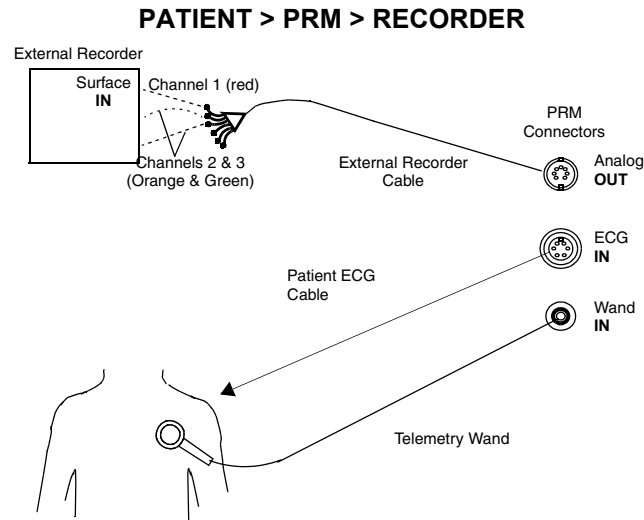

Figure B-3. PRM receives surface signal via the patient cable and then sends surface and telemetered channels to the external strip chart recorder.
- Patient to PRM to external recorder (Figure B-3 on page B-4)
To display a tracing on the PRM and an external strip chart recorder using the patient ECG cables, set up equipment as shown in Figure B-3.